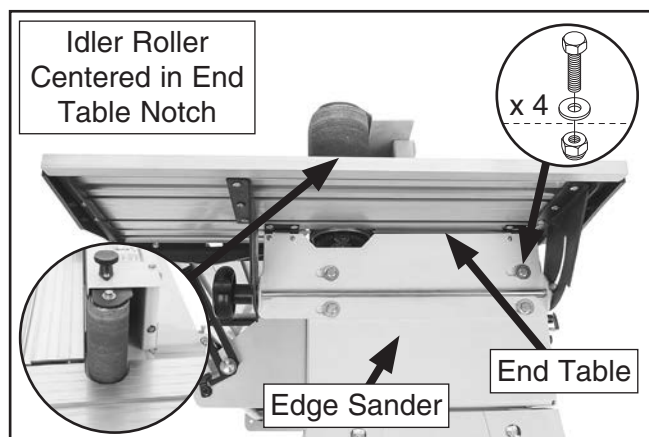

Figure 21. End table attached to edge sander.
- Attach end table to edge sander with (4) M8-1.25 x 20 hex bolts, (4) 8mm flat washers, and (4) M8-1.25 lock nuts (see **Figure 21**).
IMPORTANT: Make sure idler roller is centered in end table notch (see **Figure 21**).